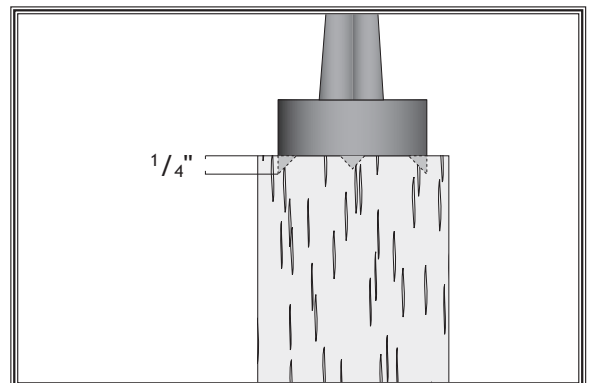

Figure 28. Spur center properly embedded.
6. Drive the spur center into the workpiece end center mark with a wood mallet to embed it at least $\frac{1}{4}$ " into the workpiece (see **Figure 28**).